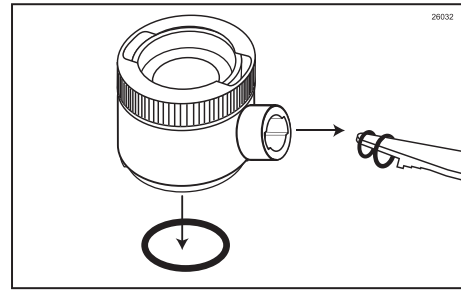

Figure 93
2. Remove the worn o-rings from the Injector Head. A small tool may be needed to remove the two o-rings in the syrup line opening. (See Figure 93.)